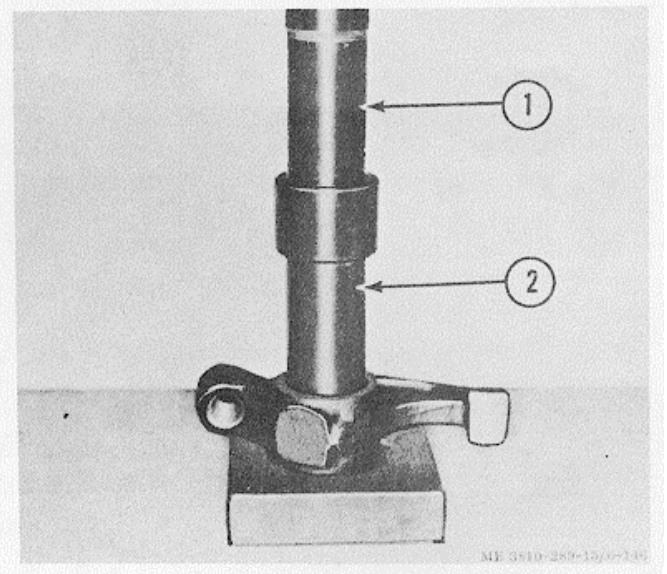

Figure 3-140. Installing vishing with ST-691.
(3) Rocker arm assembly.
(a) If rocker lever bushings were found unserviceable, press out with ST-691 (1, fig. 3-140). Align oil hole in precision steel bushing (2) and oil hole in rocker lever and press bushing in with ST-691. Locate bushing so split is not at bottom or load area in lever. Check lever over shaft to make sure bushing has not "collapsed". Rocker lever assembly is lubricated through oil holes in shaft and in center bearing which indexes with oil passage in block. Oil line dowel pin in cylinder head indexes with center bearing.